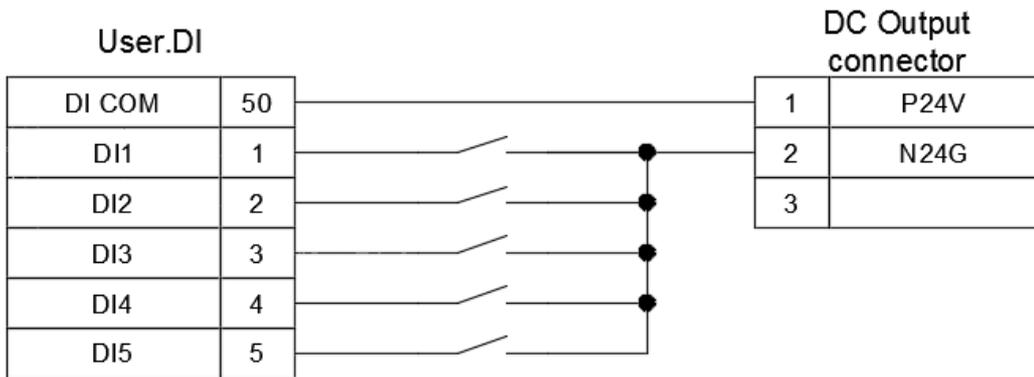

Figure 7.10 NPN wiring for when the input signal DI uses power of the controller
- The NPN wiring method is as shown in Figure 7.10 below; please connect DI COM (Pin50) of User.DI/O (D Sub-50P) to P24V (Pin1) of the DC output, and connect the output signals including buttons, switches, and sensors etc. to DI.